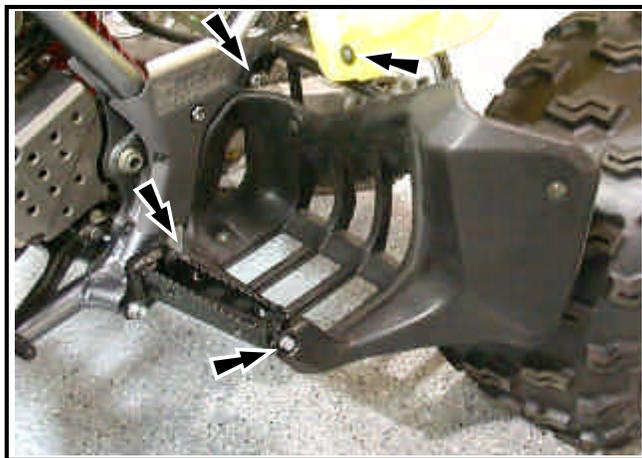

Fig. 1
- 1 Unbolt and remove right and left stock heel guard protectors (See Fig 1 & 2 for nut and bolt locations).